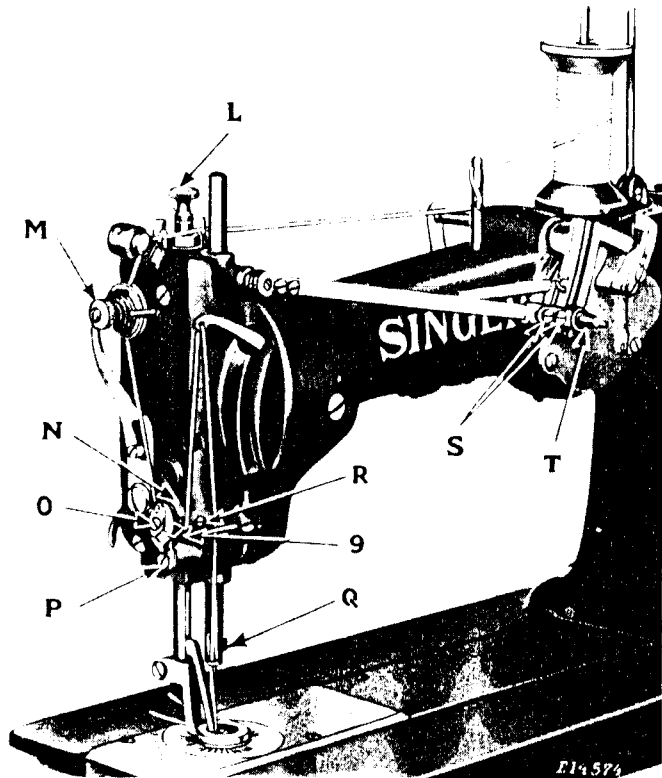

Fig. 11
Turn the balance wheel over towards you until the needle bar moves up to its highest position; loosen the set screw (Q, Fig. 11) in the lower end of the needle bar and put the needle up into the bar as far as it will go, with the long groove of the needle toward the front of the machine and the eye of the needle directly in line across the bed of the machine, then tighten the set screw (Q).
The width of bight or throw of the needle is regulated by the sliding block in the slide at the front of the machine. To increase the width of bight loosen the wing nut (T, Fig. 11) which holds the sliding block in position and move the sliding block downward. To decrease the width of bight move the sliding block upward. When the desired width of bight is obtained, tighten the wing nut (T).
The tension on the upper thread is regulated by the thumb nut (M, Fig. 11). To increase the tension turn the thumb nut (M) over toward you. To decrease the tension turn the thumb nut (M) over from you.
The pressure on the material is regulated by the thumb screw (L, Fig. 11). To increase the pressure turn the thumb screw (L) over to the right. To decrease the pressure turn the thumb screw (L) over to the left.
The function of the thread controller spring (9, Fig. 11) is to hold back the slack of the upper thread until the eye of the needle reaches the goods in its descent.
Loosen the wing nut (T, Fig. 11) and raise it to the top of the slot. When the wing nut (T) is in this position, the needle bar should not vibrate and the point of the needle should enter directly in the center of the slot in the needle plate. If the needle is at the right or left of the center, loosen the two screws (S) and move the needle bar to the right or left, until the needle is central in the slot, then securely tighten the two screws (S).
First - Move needle bar frame pitman connection slide wing nut (T, Fig. 11) up until there is no vibration of the needle bar.